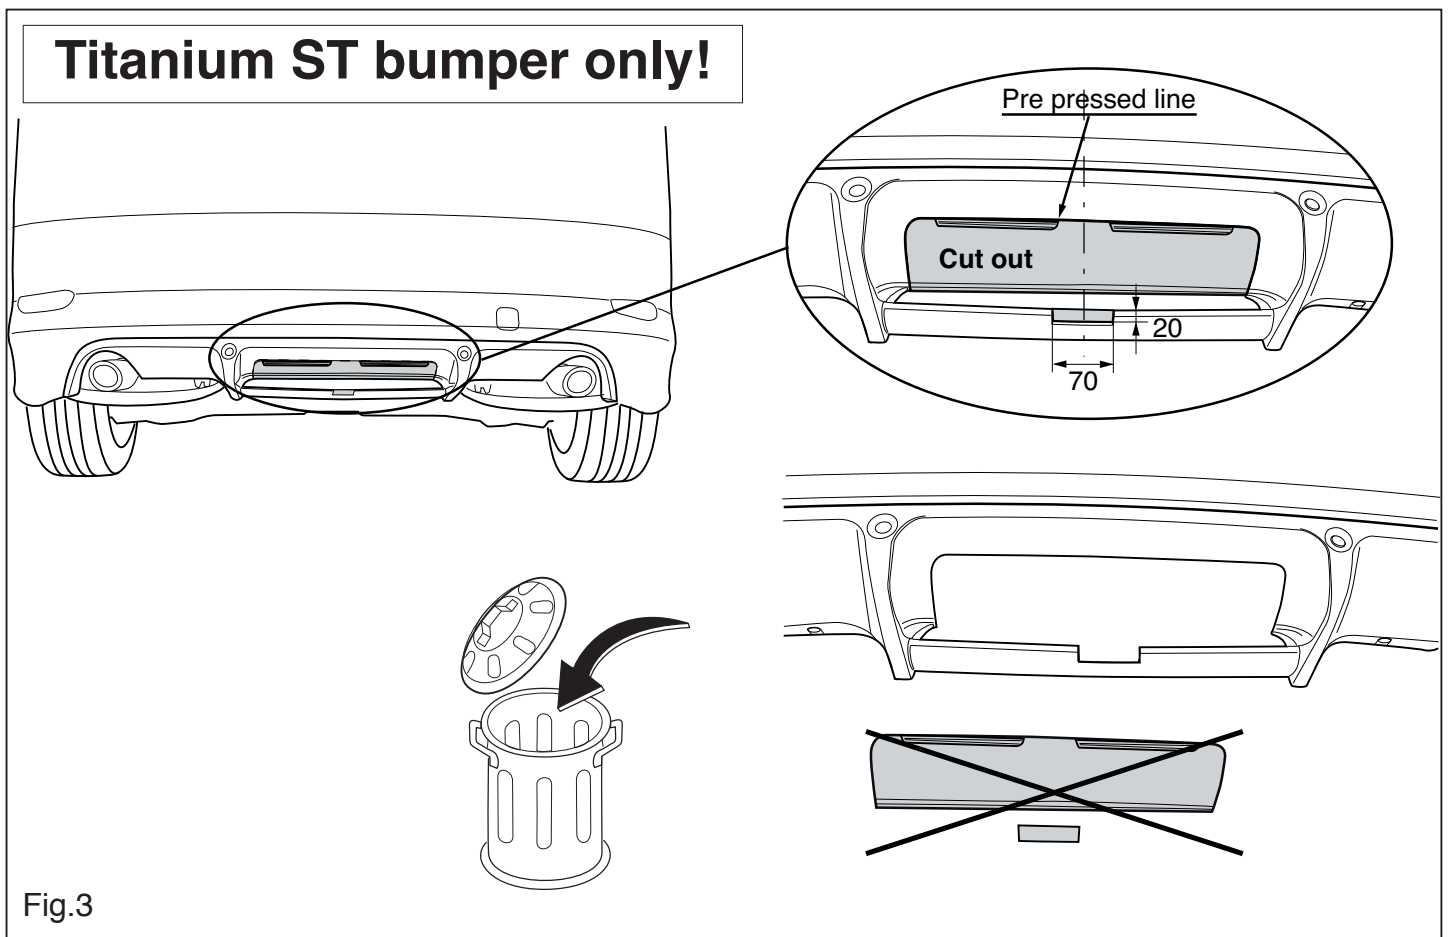

Fig.3
9. **N.B. The following only applies to the titanium:** Saw a section out of the middle of the underside of the bumper as shown in fig 3.